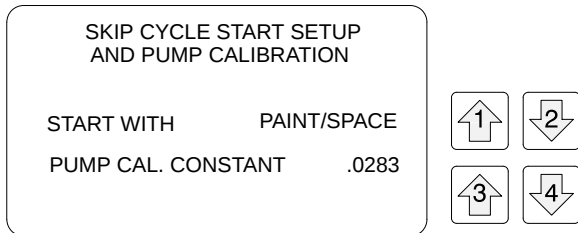

Fig. 4
7. Use the menu arrows of the Skipline Controller to select the Skip Cycle Start Setup and Pump Calibration menu. Fig. 4.